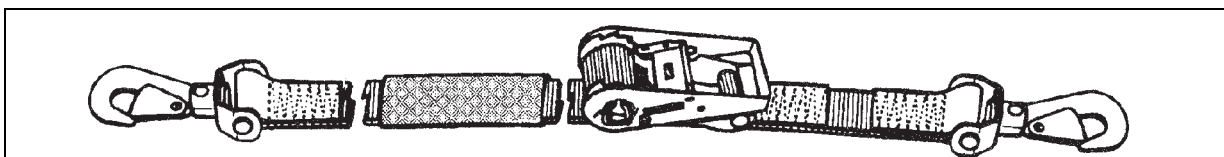

Figure 8-40. Special Webbing Strap (P/N 9392419)
- **Special Webbing Strap.** The 5,000-pound capacity special webbing strap (figure 8-40) is similar to the CGU-1/B cargo tiedown strap. The main differences are the swivel hooks and the short strap attached to the ratchet device. Two moveable nylon sleeves on the 20-foot strap section can be positioned at chaffe points on the load to protect the strap from damage.